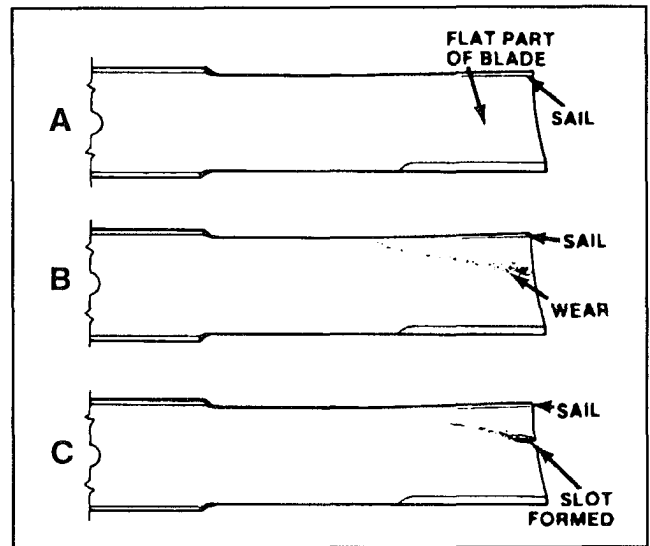

Figure 30
2. Examine cutting ends of the blade carefully, especially where the flat and curved parts of the blade meet (Fig. 30–A). Since sand and abrasive material can wear away the metal that connects the flat and curved parts of the blade, check the blade before using the mower. If wear is noticed (Fig. 30–B), replace the blade.
If blade is allowed to wear, a slot will form between the sail and flat part of the blade (Fig. 30–C). Eventually a piece of the blade may break off and be thrown from under the housing, possibly resulting in serious injury to yourself or bystanders.